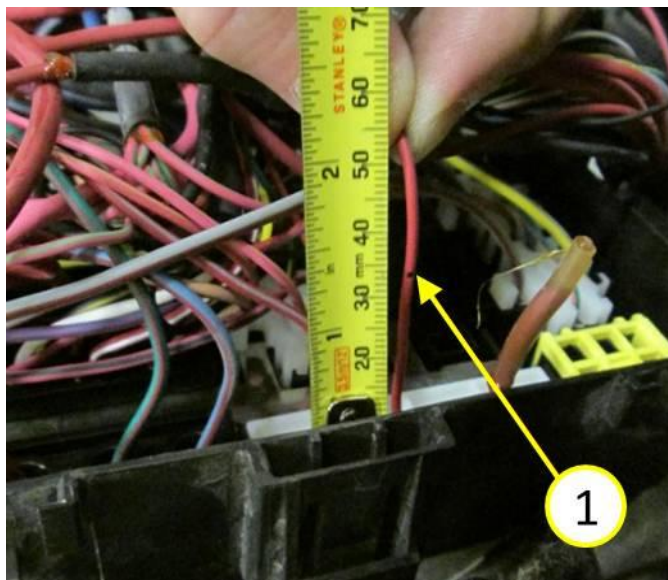

Fig. 6 Cut Wire From Cavity 12
15. Locate the RD/LB wire located in cavity 12. Place a mark on the wire approximately 35mm (1.375 In.) up from the terminal, see (Fig. 6).